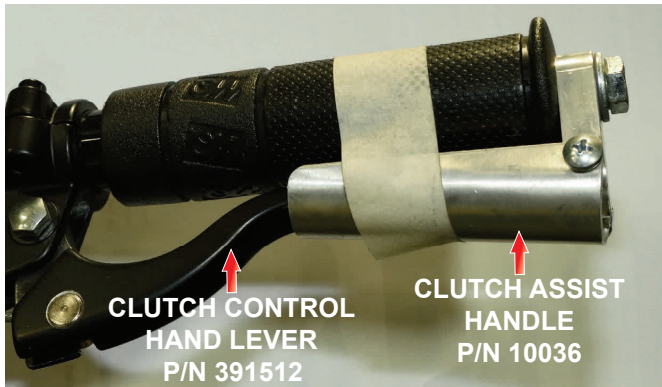

Figure 35. Engage and Tape Clutch Hand Lever
7. Engage the clutch control hand lever (P/N 391512) and tape the clutch assist handle (P/N 10036) in place as shown in Figure 35.
1. Pull the clutch control hand lever (P/N 391512) and tape the clutch assist handle in place again as shown in Figure 35.